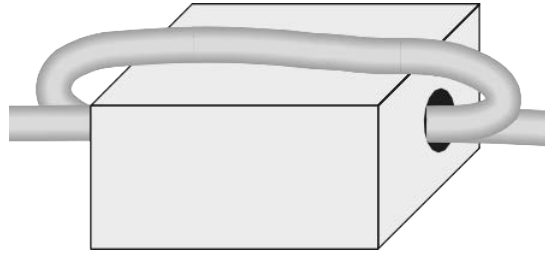

Figure 15: DUT Cable with Clamp-on Ferrite
3. Wind the DUT cable with more than one turn around the clamp-on ferrite, see Figure 15.